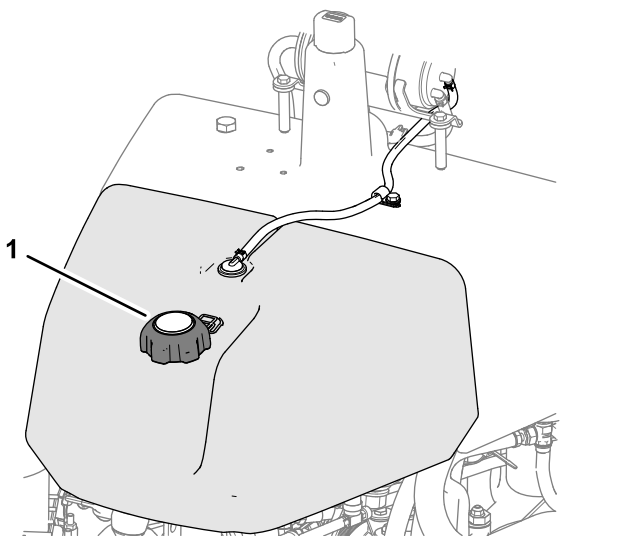

Figure 23
1. Clean around the fuel-tank cap and remove it (Figure 23).